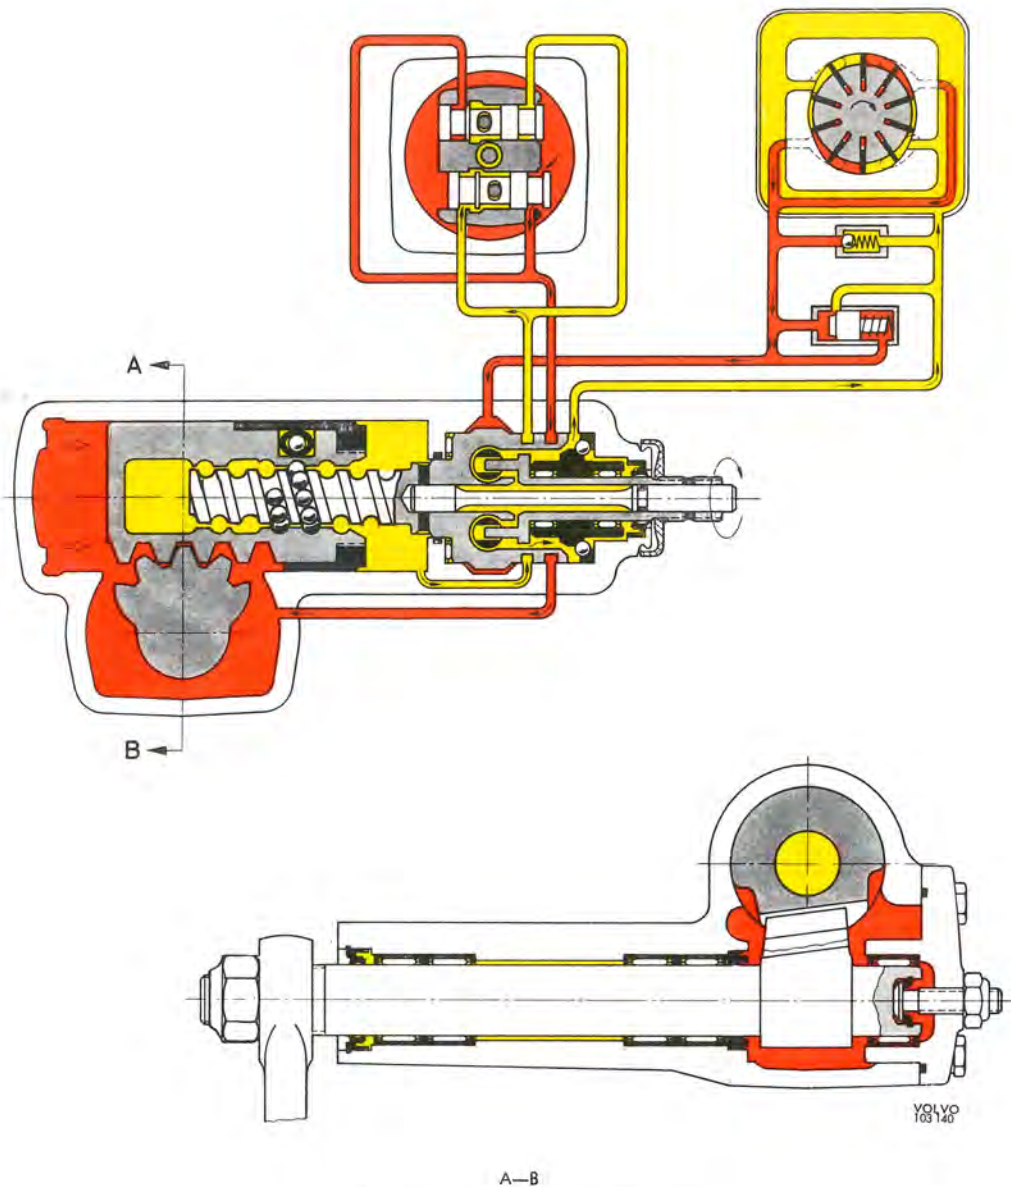

Fig. 6-41. Function, right-hand turn
As soon as the front wheels have been turned to the desired position, and the forces acting on the steering wheel become less, the valve pistons return to the neutral position under the influence of the torsion rod. When the steering wheel is turned to the right (see Fig. 6-41), the piston (2) is screwed to the right in the figure. The valve piston (10) is moved to the right and permits oil under pressure to pass to the radial groove (18) of the valve housing and from there to the left side of the cylinder. Oil under pressure also flows to the return groove (7) which, however, is closed so that the oil pressure on the left side of the operating piston (2) rises and facilitates turning of the sector shaft. Oil at the right side of the cylinder is pressed by the piston via the radial groove (19)
Turning the steering wheel to the right (see Fig. 6-41) will screw the piston (2, Fig. 6-39) to the right on the figure. The valve piston (10) is displaced to the right and permits oil under pressure to pass to the radial groove (18) of the valve housing and from there on to the left-hand side of the cylinder. Oil under pressure also flows to the return groove (7) which, however, is closed so that oil pressure on the left-hand side of the operating piston (2) rises and facilitates the turning of the lever shaft. Oil at the right-hand section of the cylinder is pressed by the piston via the radial groove (19) through the return groove (6) of the valve piston (10) back to the oil container (13).
The space in the intermediate piece is oval, see Fig. 6-41. This permits the area between the rotor, the wall of the intermediate piece and two of the vanes to